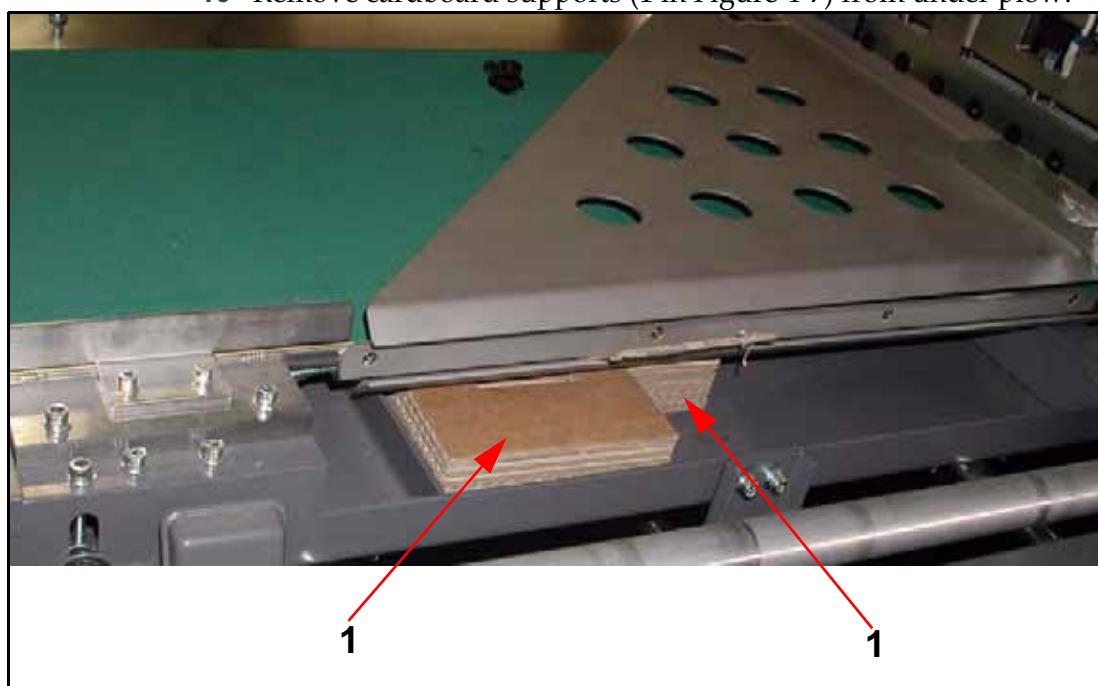

Figure 4-7. Cardboard Supports (Typical)
- 10 Remove cardboard supports (1 in Figure 4-7) from under plow.